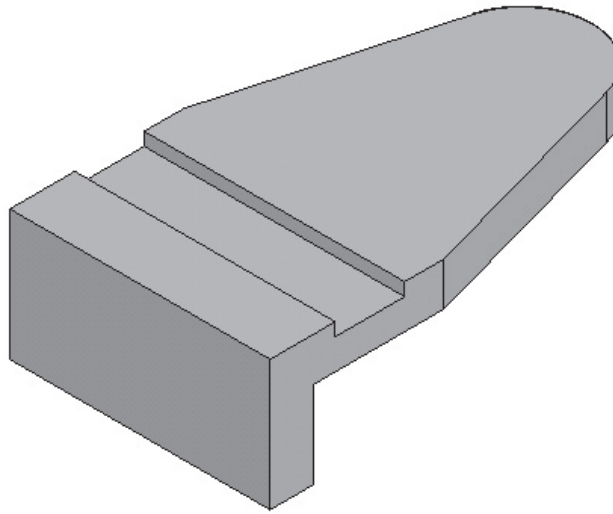

Figure 4-60 Model after creating the second feature
- b. Select the top planar face of the base feature as the sketching plane and then create the second feature, refer to Figure 4-60.
8. Choose **Return** from the ribbon bar to complete the feature. The model, after creating the second feature, is shown in Figure 4-60.